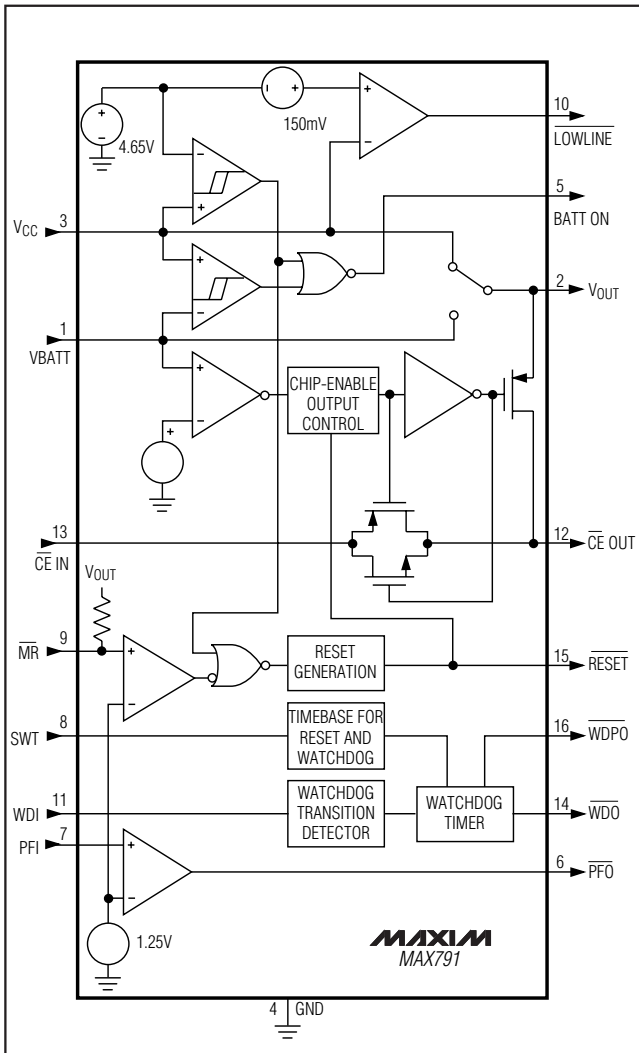

Figure 1. MAX791 Block Diagram
Many µP-based products require manual-reset capability, allowing the operator or test technician to initiate a reset. The Manual Reset Input (MR) can be connected directly to a switch, without an external pull-up resistor or debouncing network. It connects to a 1.25V comparator, and has a pull-up to VOUT as shown in Figure 1. The propagation delay from asserting MR to RESET asserted is 4µs typ. Pulsing MR low for a minimum of 15µs resets all the internal counters, sets the Watchdog Output (WDO) and Watchdog-Pulse Output (WDPO)
The MAX791 provides internal gating of chip-enable (CE) signals to prevent erroneous data from corrupting the CMOS RAM in the event of a power failure. During normal operation, the CE gate is enabled and passes all CE transitions. When reset is asserted, this path becomes disabled, preventing erroneous data from corrupting the CMOS RAM. The MAX791 uses a series transmission gate from the Chip-Enable Input (CE IN) to CE OUT (Figure 1).